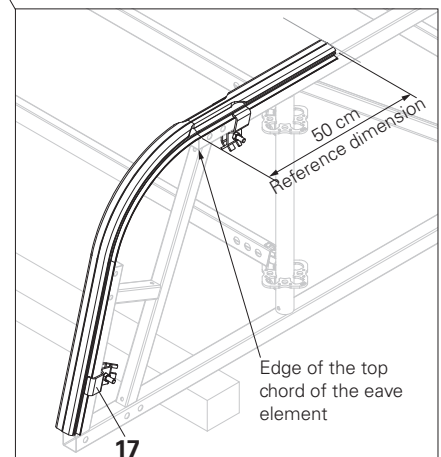

Fig. A2.01a
→ Eave rail projection on the top chord of the eave element. (Fig. A2.01a)
3. Fix the keder connector (**17**) to the eave rail. (Fig. A2.01a)